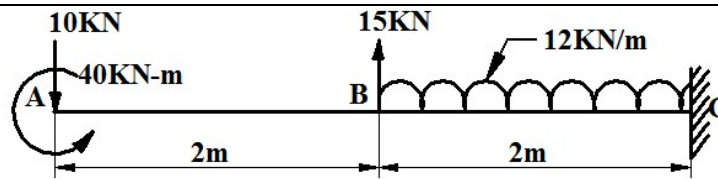

Figure 46
15. A cantilever is subjected to the forces as shown in the **Figure 46**. Determine deflection and slope at a point which is at a distance of 3m from the free end.